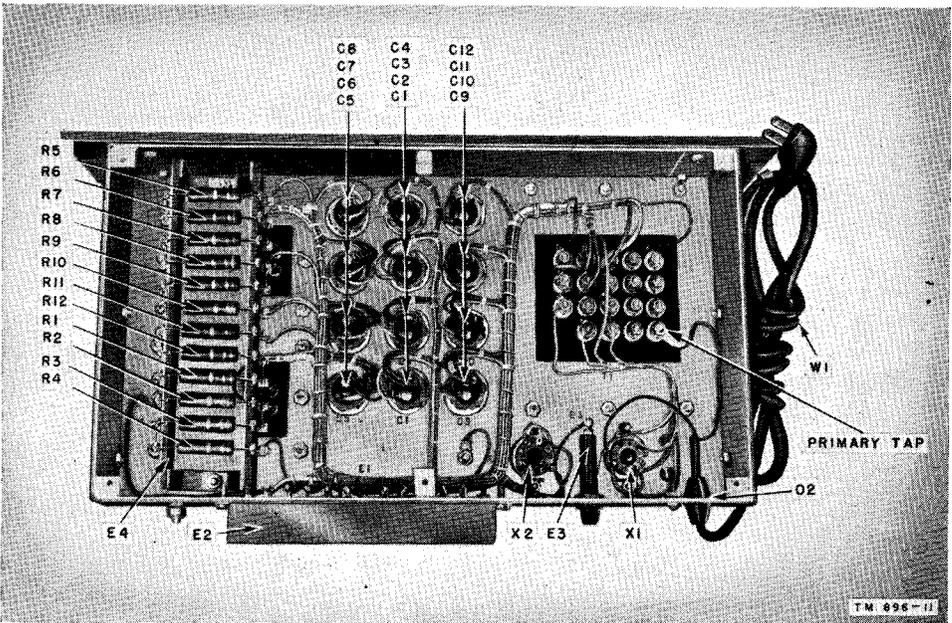

Figure 44.1 (Added.) Power Supply Unit RA-74-D, with serial numbers 1 through 390, Order No. 12618-Phila-47, chassis, bottom view.
e. A-C INPUT. Before plugging the \* \* \* in figure 12. **The primary tap of Power Supply Unit RA-74-D is indicated in figures 44.1 and 44.2.** Connect the primary \* \* \* bottom cover plate.